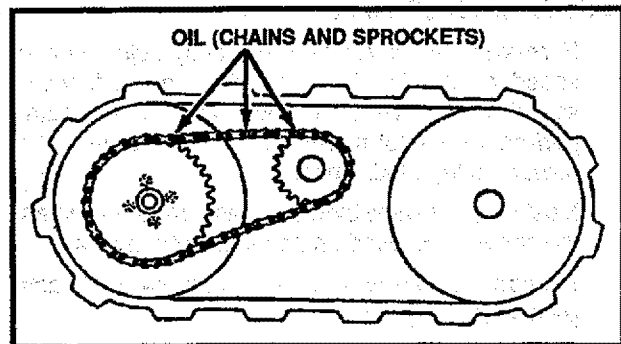

FIG. 16
- Chain and Sprockets - Oil chains and sprockets (See Fig. 16) with 10W-30 oil (or equivalent) after 10 hours use and at the end of each season.